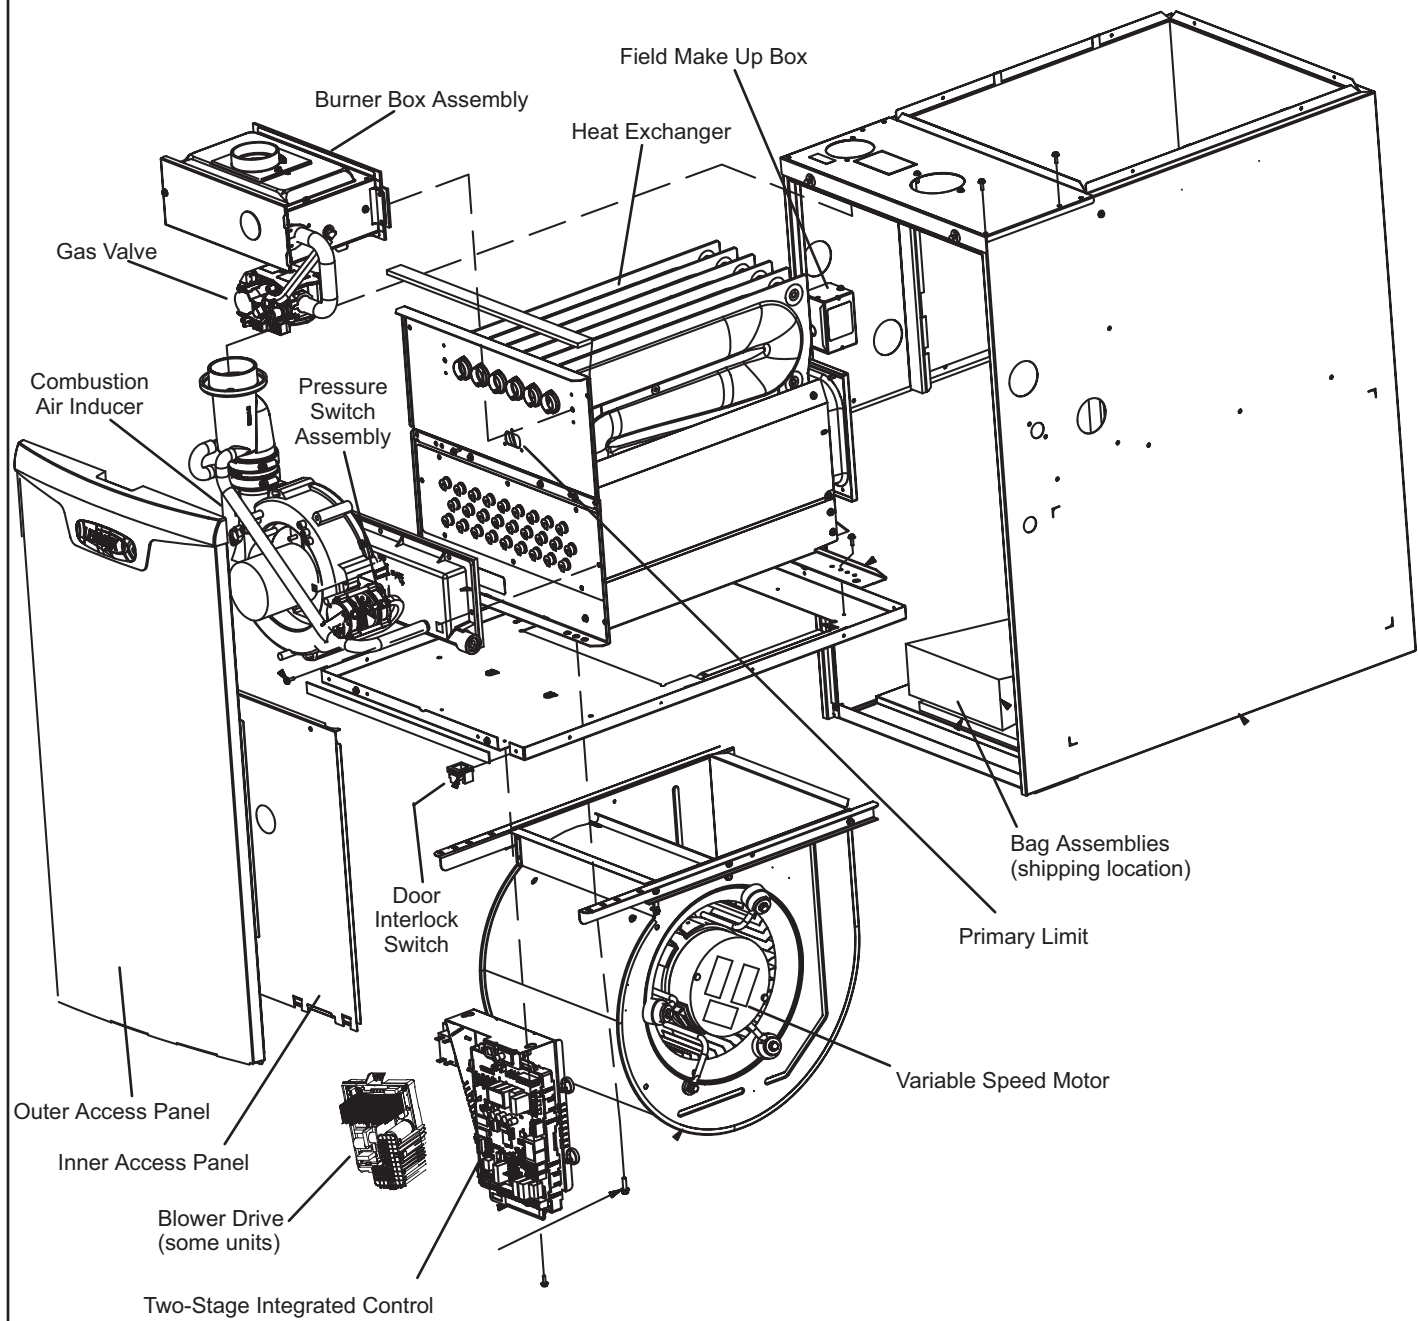
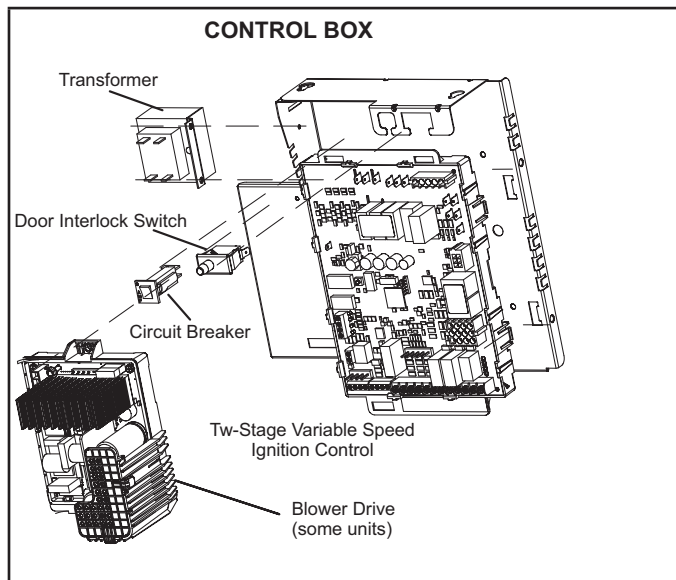

FIGURE 1
FIGURE 2
EL297UHV(X) unit components are shown in FIGURE 1. The gas valve, combustion air inducer and burners can be accessed by removing the access panel. Electrical components are in the control box (FIGURE 2) found in the blower section.